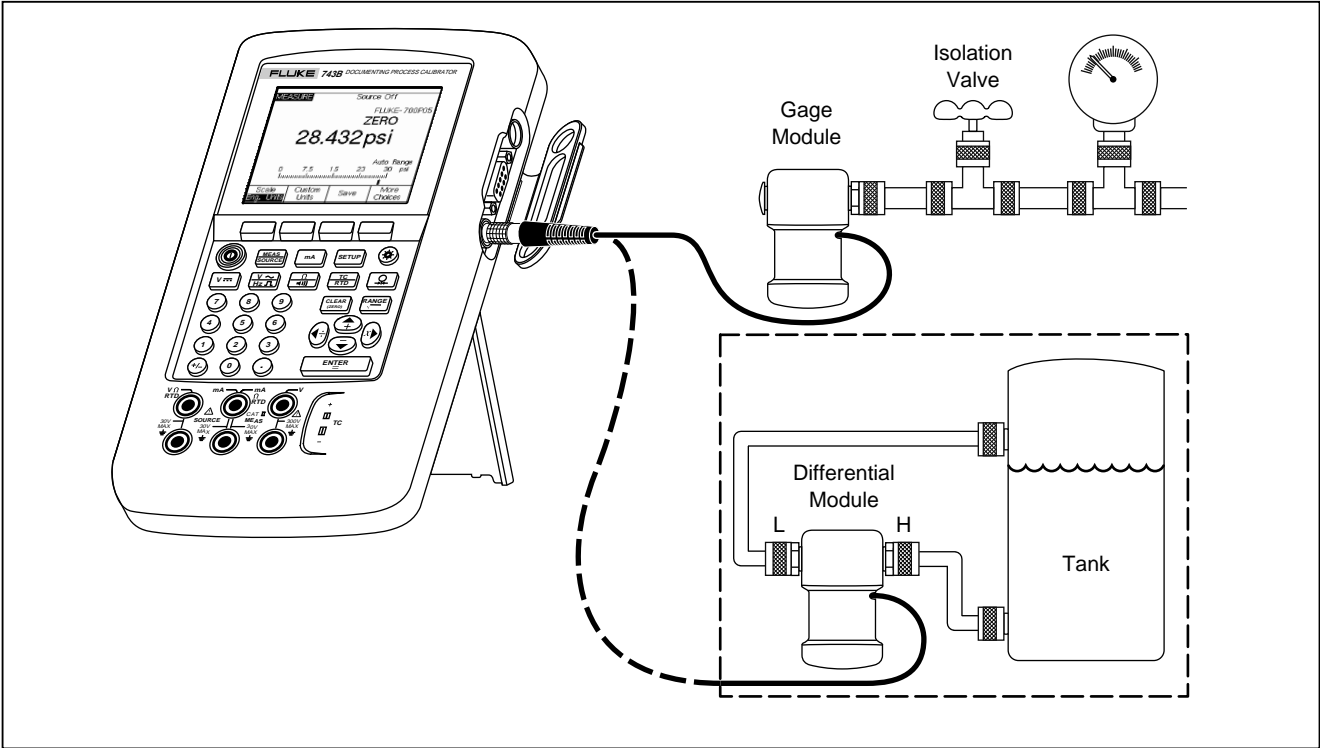

Figure 12. Connections for Measuring Pressure
1. Connect a pressure module to the calibrator as shown in Figure 12. The threads on the pressure modules accept standard 1/4 NPT pipe fittings. Use the supplied 1/4 NPT to 1/4 ISO adapter if necessary.